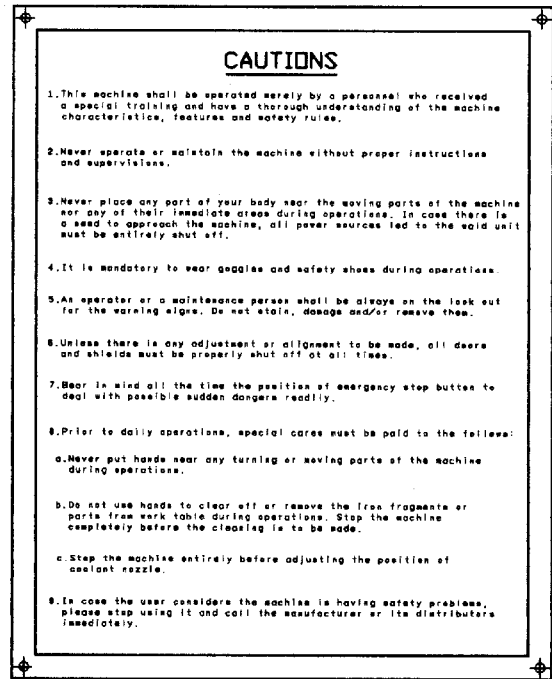

Fig 3.7.5
5. Warning for general safety notices (Fig 3.7.5). Located in position “E”.